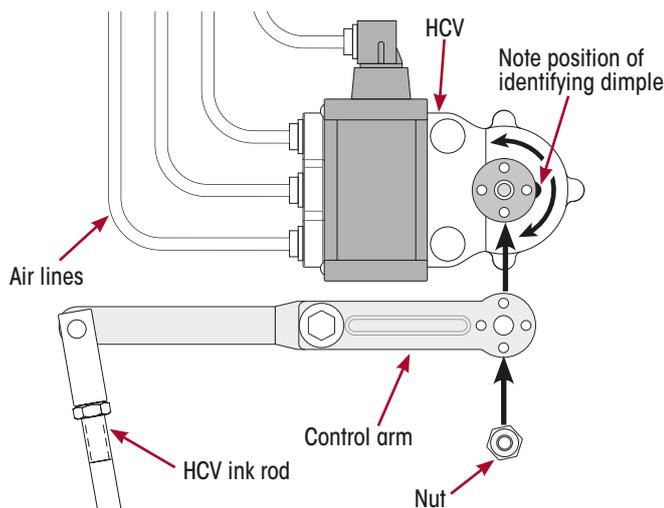

Figure 3: Note Component Location & Orientation
5. Find and carefully note the orientation and position of the HCV, air lines, arm and the identifying dimple on the HCV shaft. Photos taken with a mobile phone may be used as a handy reference. Refer Figure 3.
| Sep-2023 | 03  | 2, 5 | Expand Figure 3 to clarify components. Correct example numbers. |